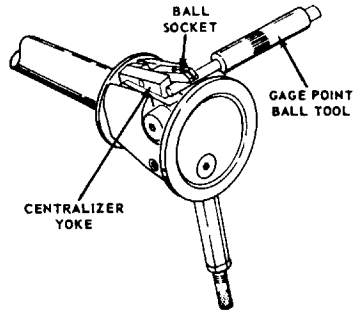

FIGURE 13
3. Depress Centralizer Yoke and insert Gage Point Ball Tool as shown in Figure 13 to prevent damage to gage when reinstalling Ball.